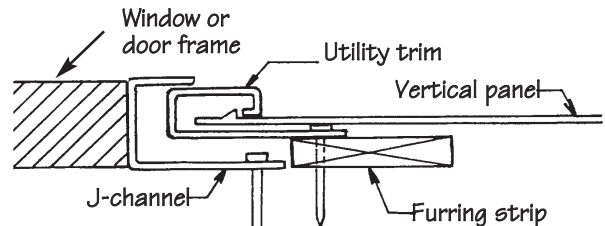

Figure 58.
- If the panel is cut on the flat surface, install utility trim, backed by furring, into the J-channel. The flat surface of the vertical siding should be snap lock punched and fitted into the utility trim (Fig. 58). The panel is further secured above and below the windows and above the door when the panel is fastened in place.